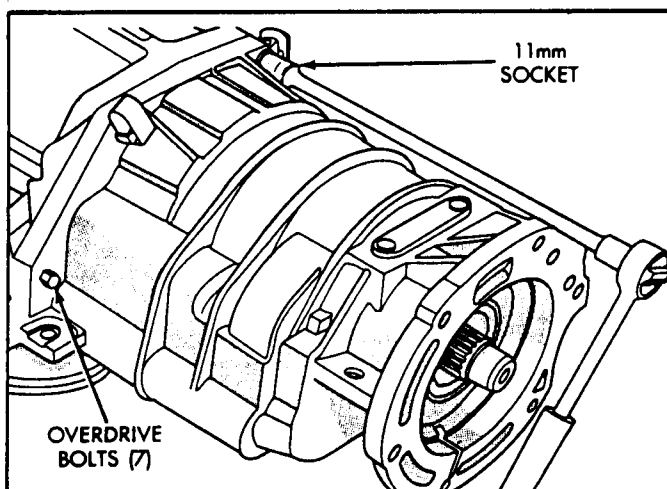

Figure 3
7. Remove overdrive unit to case attaching bolts, using an 11mm socket, as shown in Figure 3.